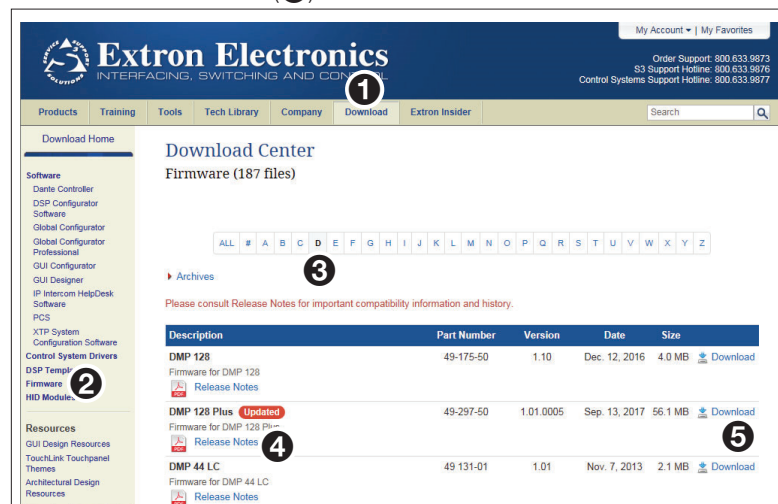

Figure 12. Firmware Link on the Download Tab
1. At www.extron.com, click the **Download** link at the top of the page (figure 12, ❶), then click the **Firmware** link (❷) on the left sidebar menu.